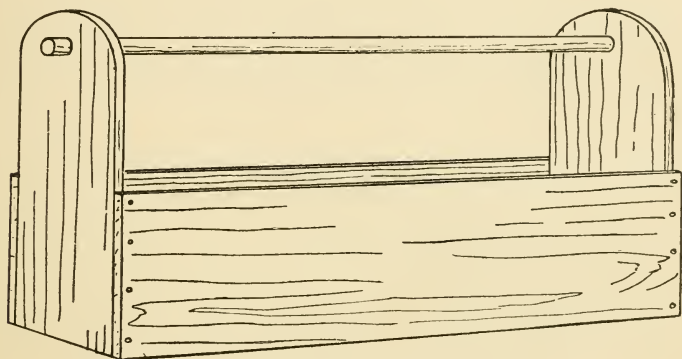

FIG. 17. — A Carpenter's Carrying-box.
**A Carpenter's Carrying-box** should be made. Such a box is shown in Fig. 17. The box should be about twenty-seven inches long, to accommodate the saws, and it would be well to make the width eight inches and the